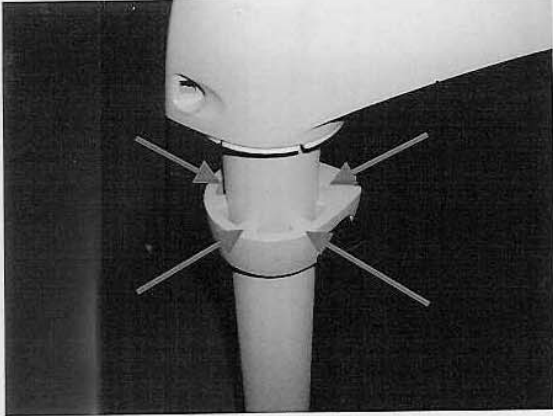

Figure 2: Location of new label on the pole
- 3) Apply the new label from the kit as shown in Figure 2.